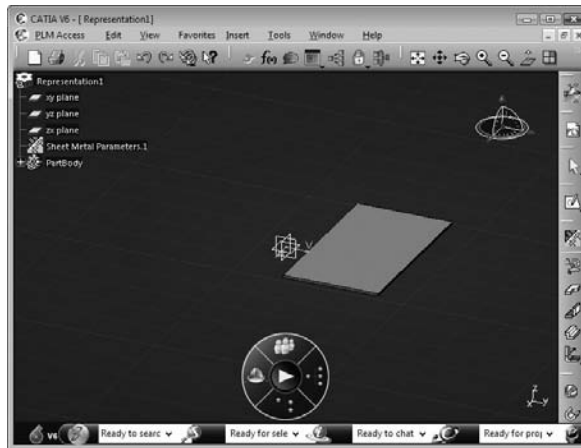

FIGURE 6.90
2. Create a base wall, as shown in **Figure 6.90**: